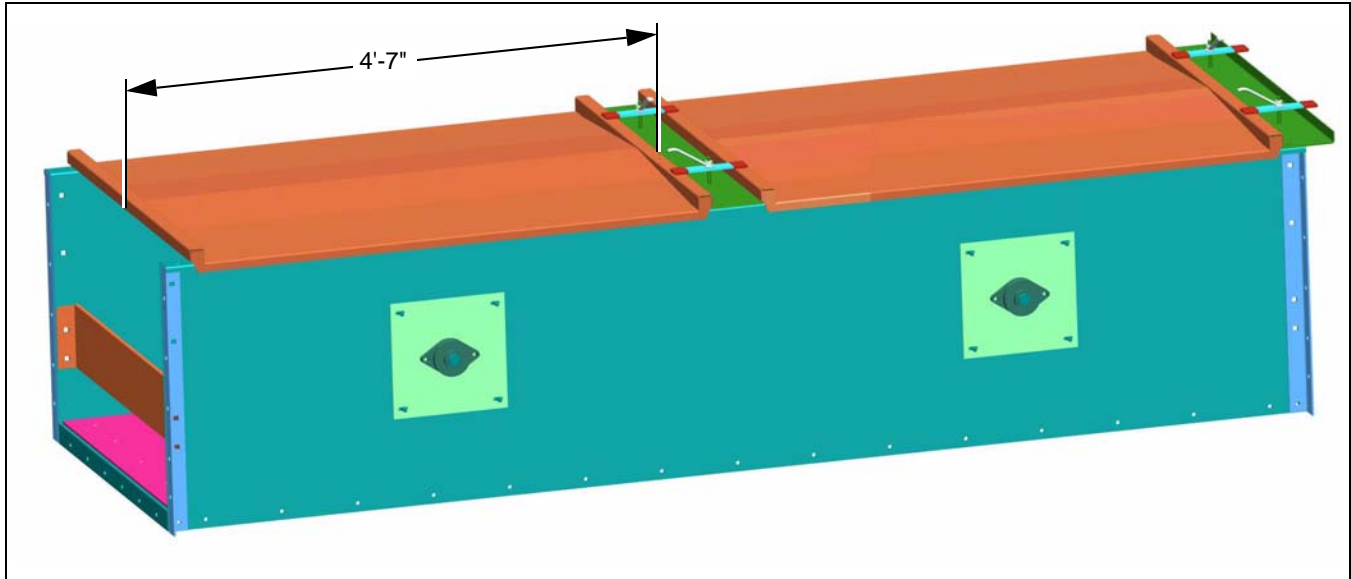

Figure 4H Standard Cover Length
3. Conveyor covers are made to fit over the entire width and half the length of a conveyor intermediate section. Standard covers measure approximately 4'-7" in length. When a loader is ordered, the cover may be measured and cut to take up the displacement of the loader housing. This depends on the position of the loader. (See Figure 4H.)